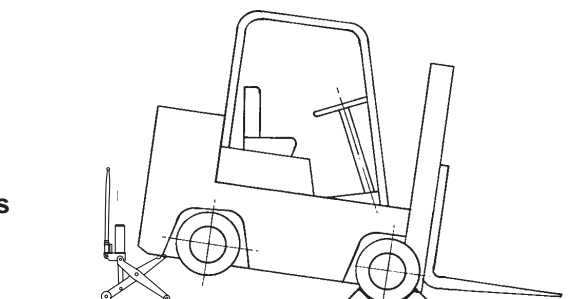

Figure 5
1. Position the jack at the center of the forklift truck. See Figure 5.